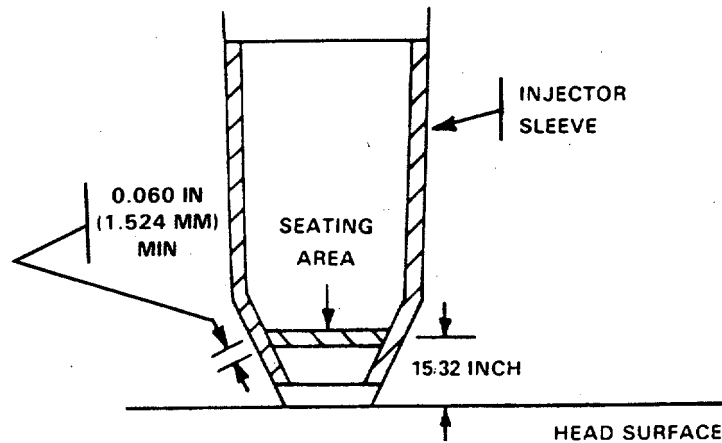

FIGURE 4-14. Injector Sleeve Measurements.
- 3 The protrusion of the injector tip must be 0.060 to 0.070 inch (1.52 to 1.78 mm) (FIGURE 4-14). Remove the injector.
- (1) Cut the seat for the injector. Be sure to use enough cutting oil while cutting the seat.
- (3) Protrusion of the injector tip.
- (e) The pattern in the sleeve must be a minimum of 0.060 inch (1.52 mm) wide and 0.469 inch (11.91 mm) from the bottom surface of the cylinder head (FIGURE 4-14).